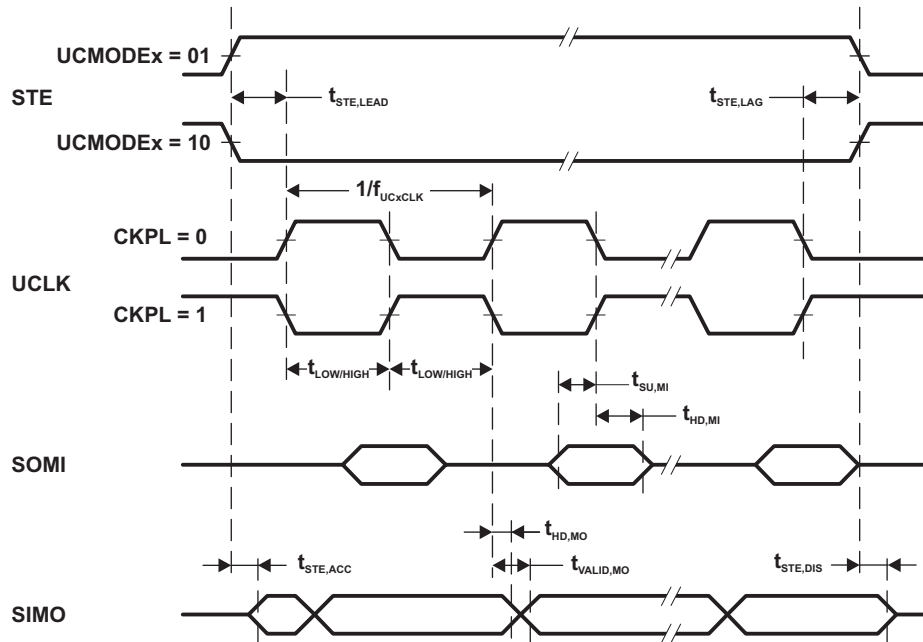
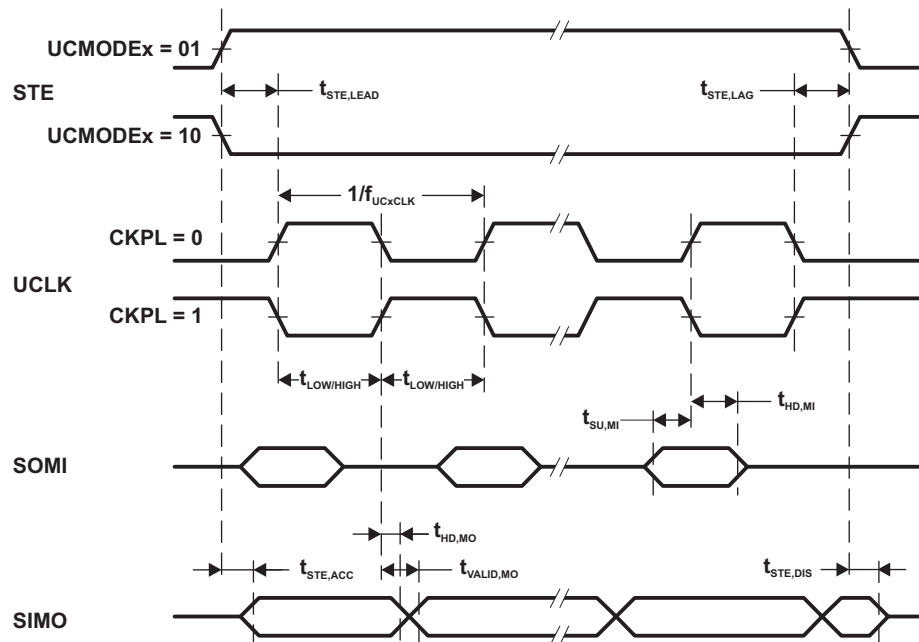

Figure 5-10. SPI Master Mode, CKPH = 0
Figure 5-11. SPI Master Mode, CKPH = 1
- (1) f_{UCxCLK} = 1/2t_{LO/HI} with t_{LO/HI} = max(t_{VALID,MO}(eUSCI) + t_{SU,SI}(Slave), t_{SU,MI}(eUSCI) + t_{VALID,SO}(Slave)). For the slave's parameters t_{SU,SI}(Slave) and t_{VALID,SO}(Slave) refer to the SPI parameters of the attached slave.
- (2) Specifies the time to drive the next valid data to the SIMO output after the output changing UCLK clock edge. Refer to the timing diagrams in Figure 5-10 and Figure 5-11.
- (3) Specifies how long data on the SIMO output is valid after the output changing UCLK clock edge. Negative values indicate that the data on the SIMO output can become invalid before the output changing clock edge observed on UCLK. Refer to the timing diagrams in Figure 5-10 and Figure 5-11.